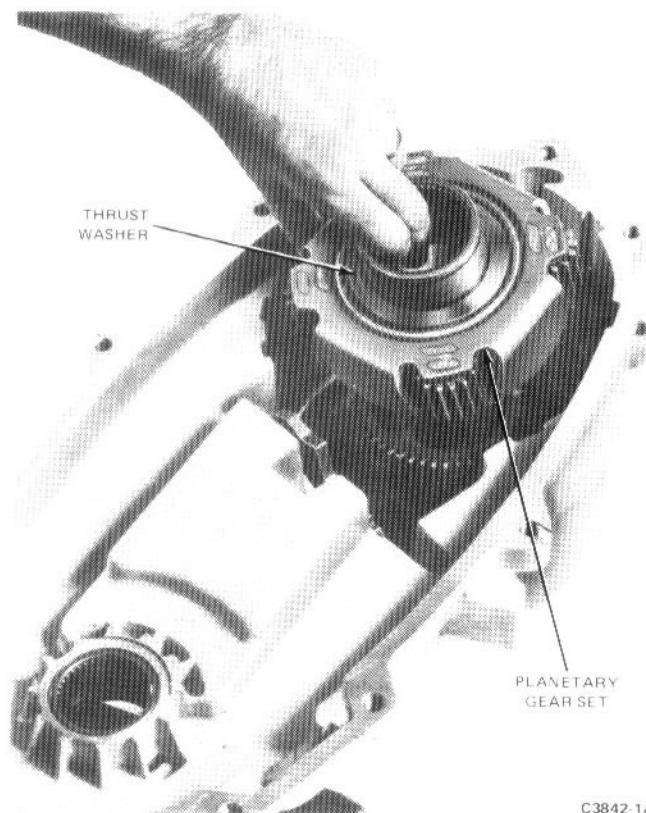

FIG. 16 Removing Planetary Gear Set
16. Lift the planetary gear assembly and thrust washer from the front case half (Fig. 16).